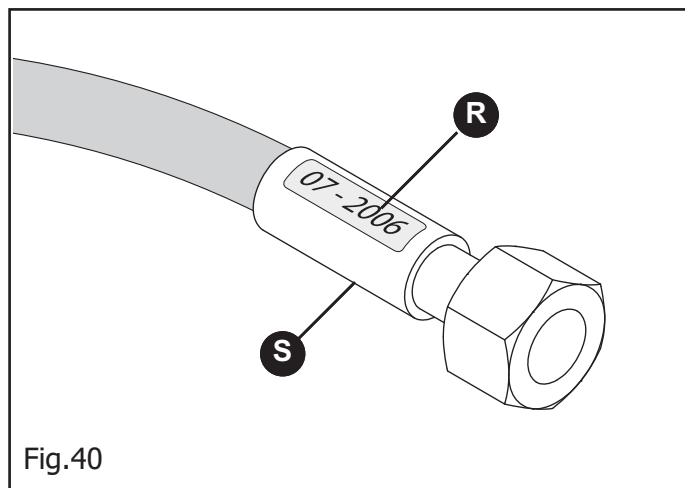

Fig.40
- when leaks are identified near the pipe sheath (S, Fig.40);
- when the sheath is corroded (S, Fig.40);
- 5 years after their manufacture (R, Fig.40).